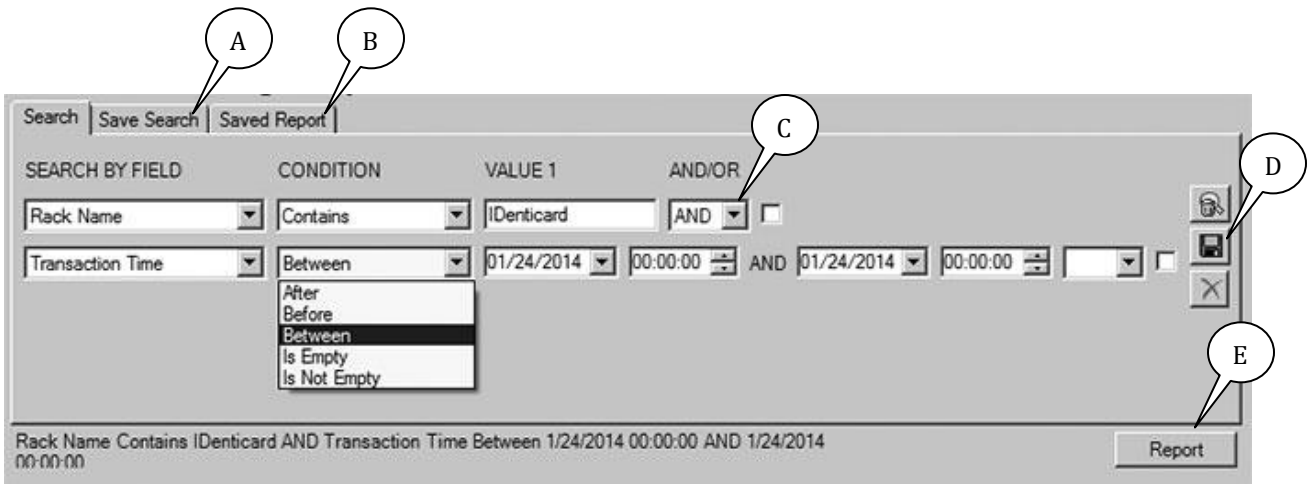
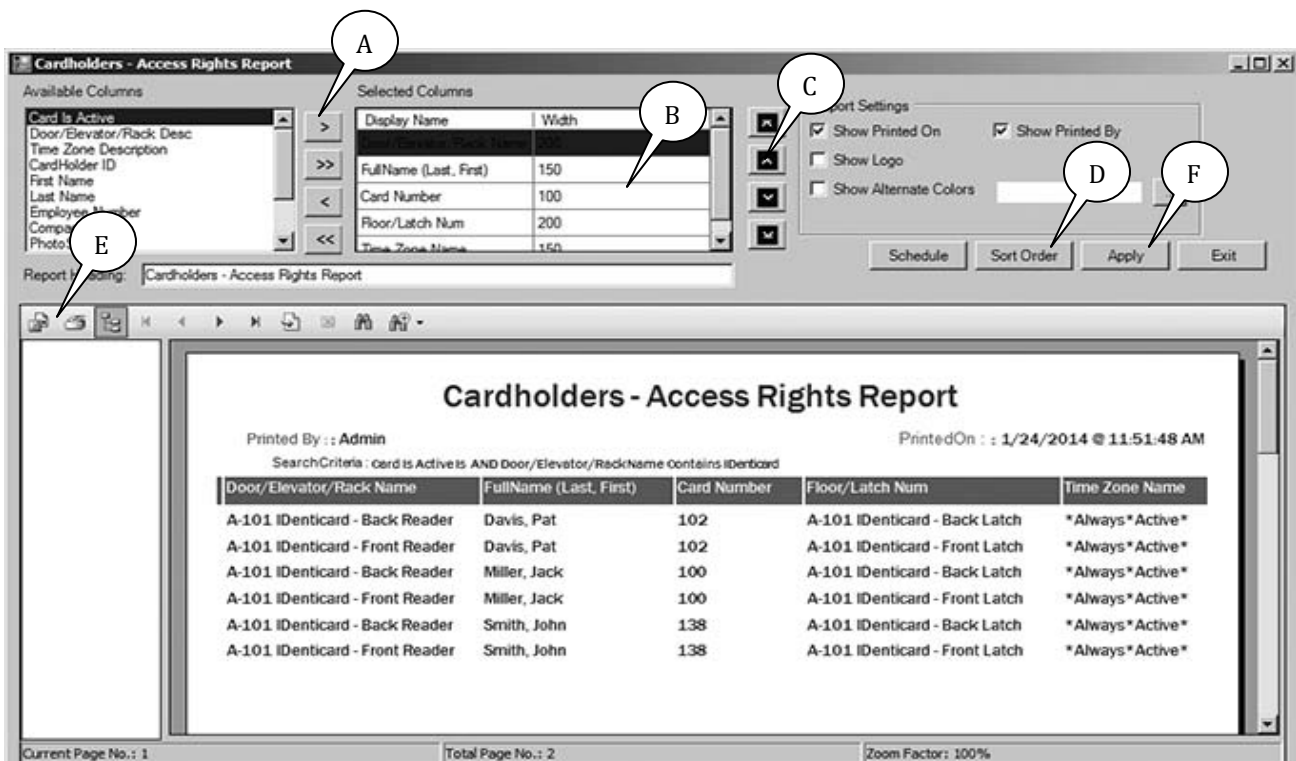
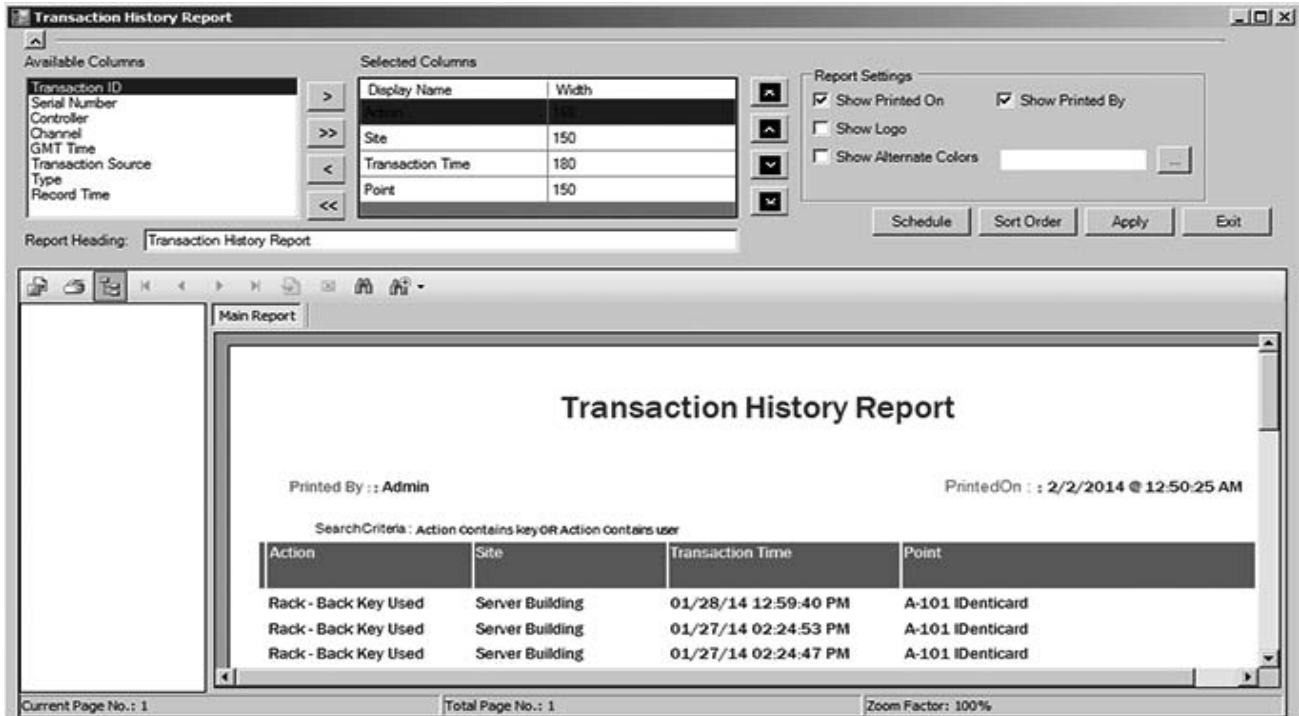

Figure 4.2
Figure 4.1.1
Figure 4.3.1
The most common Rack Armor reports are found under the *Cardholder* and *Transactions* categories, shown in Figure 4.1. These reports can be scheduled to send email results automatically on a specified schedule, see section 4.5 Scheduled Reports. Click on a report type to display the report setup window, Figure 4.2.
Figure 4.2 shows an example report setup window. Cardholder and transaction reports provide filters for finding specific information by one or more criteria using AND/OR (C). Filtering a report is not required. Search filters can be saved (D). Retrieve saved filters (A), and saved report layouts (B). Filters are saved *per user login*. Hit the "Report" button (E) to run the report.
An example of a *Cardholders - Access Rights* report is shown in Figure 4.1.1. Searchable fields include: card is active (yes or no), card number, cardholder ID, company, department description, department name, rack or door, rack name, rack description, employee number, first name, full name, last name, photo, time zone name, time zone description.
Audit what happened at which racks, when and by whom or what. Results can include: when keys were used; when system users unlocked cabinets from the software; when cabinet doors were secured or unsecured. Report filters are constructed like the other reports, see Figure 4.2. The History Transaction report can also be customized, as shown in Figure 4.1.1. For an example transaction report, see Figure 4.3.1.
Scheduled reports require that at least one save *Report Layout* exist for the type of report to be scheduled, see Figure 4.2 (B). The option to save a report layout is provided when applying changes to report results, see Figure 4.1.1 (F). If a "Save Not Successful" error is displayed, shorten the default name.
Manually run a report first, see Figure 4.2 (E). While viewing the report results window, locate the "Schedule" button. This launches the *Scheduled Report Wizard* to configure this report (layout and filter) to run on a schedule, Figure 4.5.1.